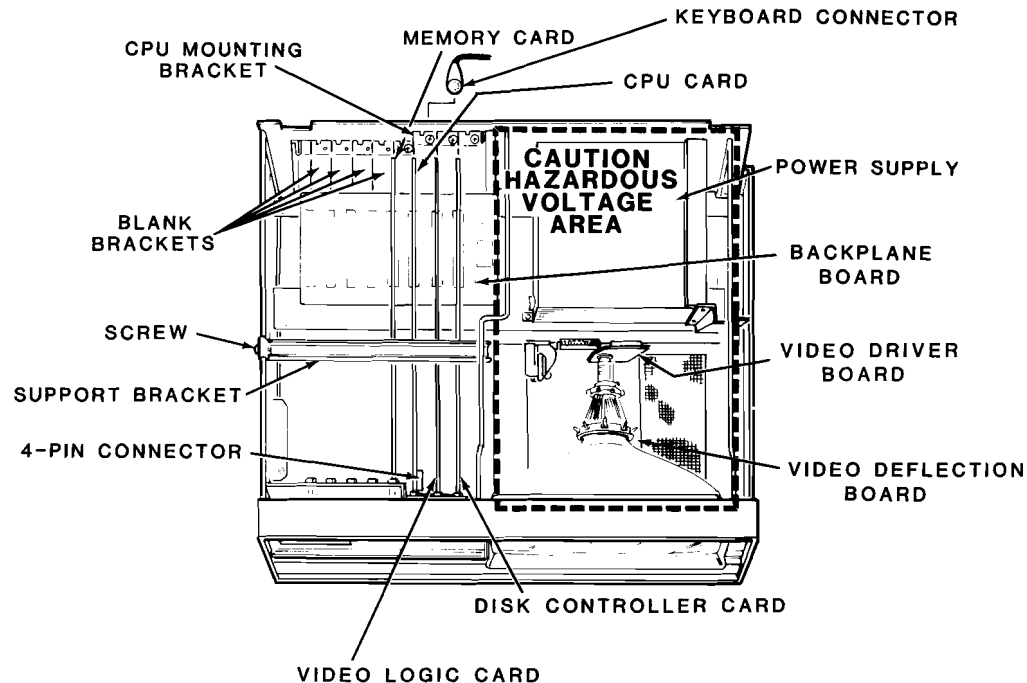

Figure 2.8. Z-160 Chassis
- Place the card support bracket (Figure 2.8) in position along the top of the cards. Secure the card support bracket to the computer frame with the card support bracket screw which was removed earlier.